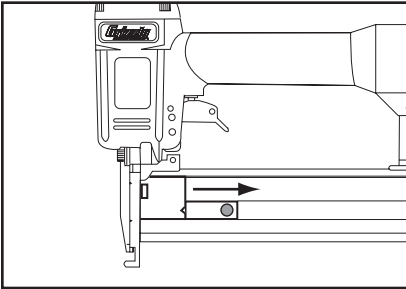

Figure 1. Pull magazine pusher back.
2. Pull the magazine pusher (shown in **Figure 1**) all the way to the back of the magazine until it snaps in place.